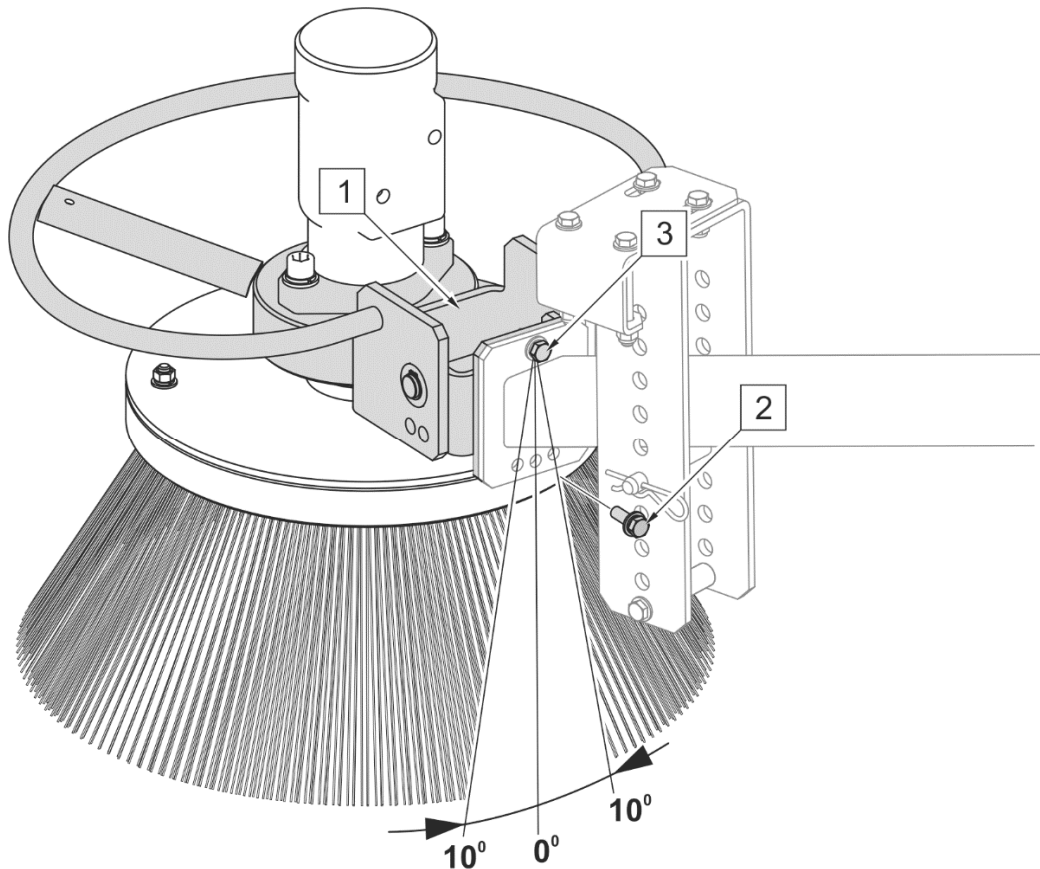

FIG. 5.6 Adjustment of lateral tilt
(1) - brush head bracket, (2) - retaining bolt, (3) - fixing bolt
To change the lateral tilt angle (FIG. 5.6), remove retaining bolt (2), loosen fixing bolt (3) and turn bracket (1) to the right or left side so as to place bolt (2) in the corresponding hole. Tighten fixing bolt (3) after the adjustment of lateral tilt of side brush.